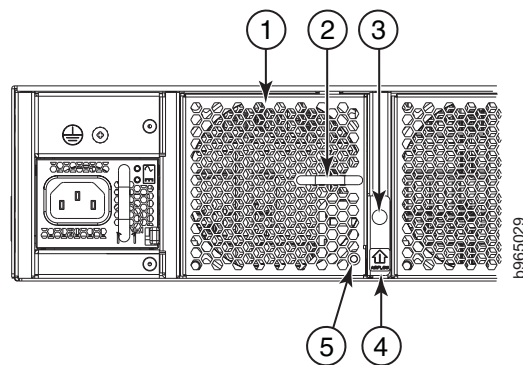
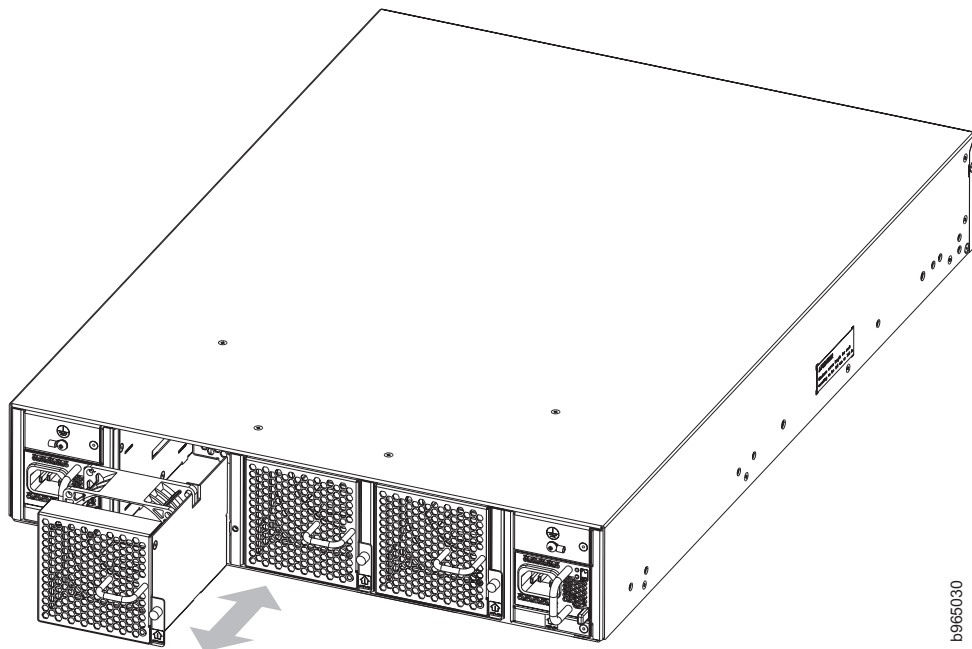

Figure 17. Fan components
Figure 18. Removing and replacing a fan in the switch
To replace a fan in the switch, you need a #1 Phillips screwdriver and a new fan that has the same part number and airflow indicator as the fan being replaced. Refer to **4** in Figure 17 for the location of the airflow label.
Complete the following steps to replace a fan in the switch. Refer to Figure 17 on page 33 and Figure 18 for this procedure.
- b. Orient the new fan with the captive screw **3** on the right, as shown in Figure 18.
The three fans must be removed from the chassis; they will be installed in the new chassis. Refer to Figure 17 on page 33 and Figure 18 on page 34 to complete these steps to remove each fan.